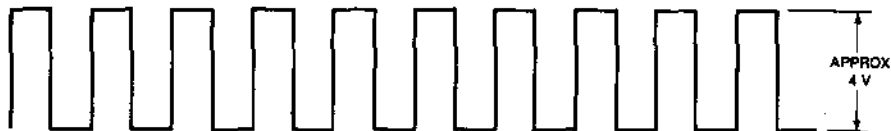

Fig. 3-18. Track No. 1 pattern.
2. Verify that the oscilloscope displays the 125-Hz waveform shown in Fig. 3-18. This waveform is at track No. 1. If this waveform is not present, depress function key f1 or f3 as necessary until the oscilloscope displays the 125-Hz waveform.